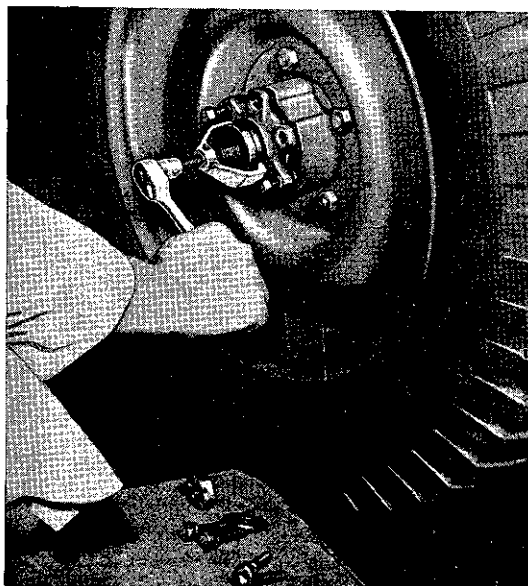

FIG. 242—AXLE SHAFT DRIVE FLANGE PULLER
- d. Apply the foot brakes and remove the axle shaft flange with puller, Tool No. W-163, which is illustrated in Fig. 242.